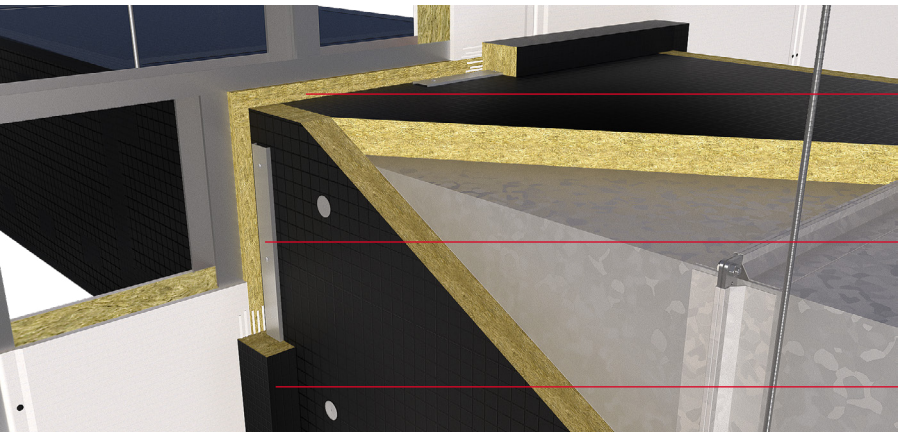

Figure 9
2. Fill the remaining annular space between the DuctRock Slab and supporting structure of the dry wall system with ROCKWOOL RWA45 as shown in Figure 9.
5. Once the u-profiles have been applied an insulated collar must be installed around the perimeter of the aperture. The collar can be simply cut from the DuctRock Slab. Fix the collars in place with FirePro Glue as shown in Figure 9. Use nails to temporarily hold the collars in place whilst the glue cures.